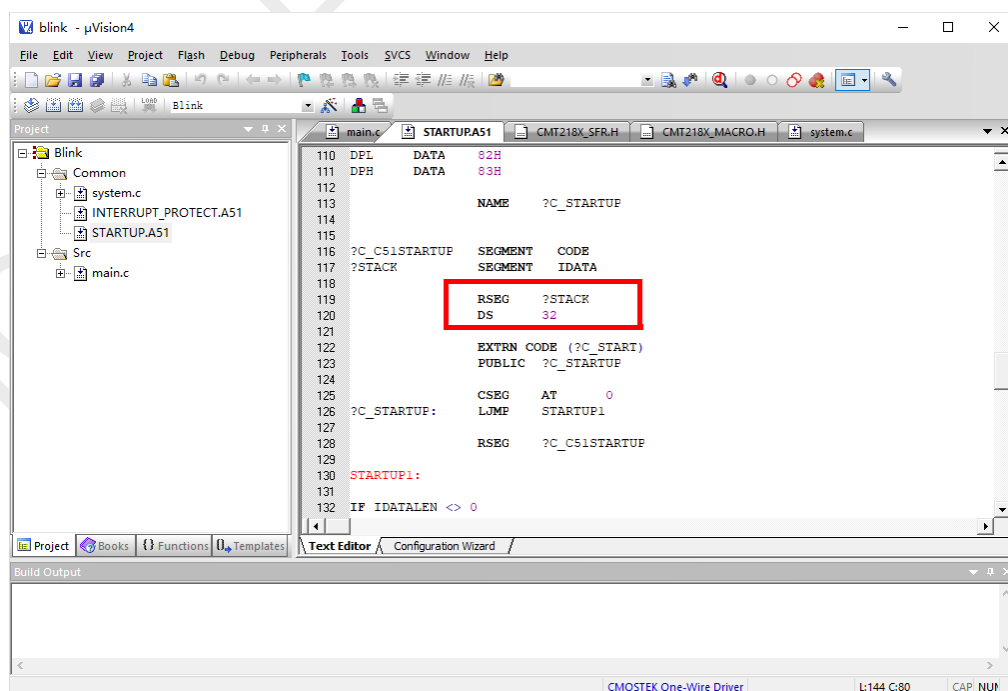

Figure 1-7. Set the Reserved Stack Space Size
- Step 5: Open the `STARTUP.A51` file and reserve the stack space size, as shown in Figure 1-7.